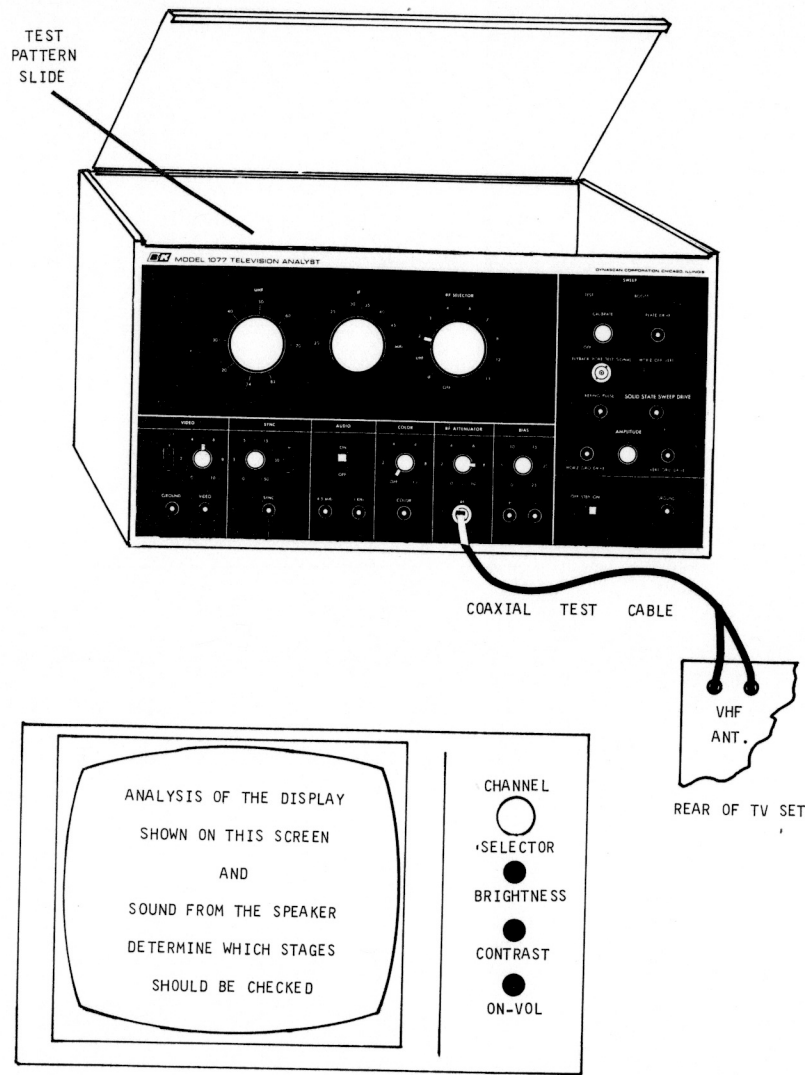

Figure 41. Injecting VHF Signal and Analyzing Symptoms
A. SYMPTOM ANALYSIS (See Figure 41)